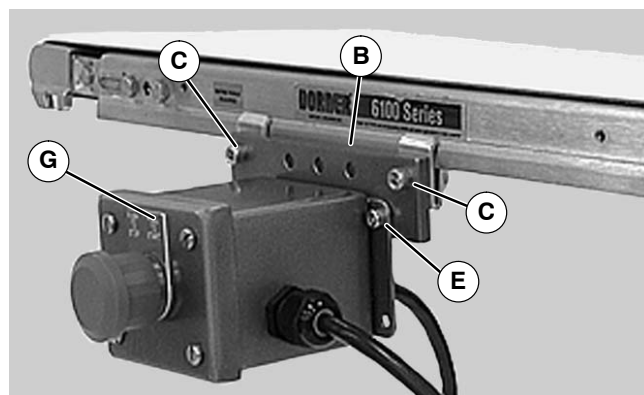

Figure 8
2. Attach Pushbutton Box (G of Figure 8) to mounting plate (B) with screws (E).
3. Attach Pushbutton Box assembly (G of Figure 8) with screws (C).